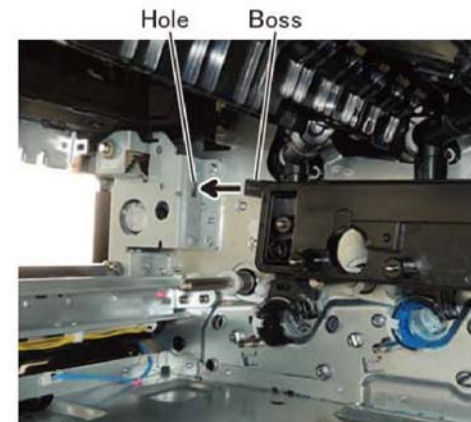

Figure 5 Conductor housing assembly install
3. When installing the conductor housing assembly, insert the boss at the rear of the conductor housing assembly into the installation hole, Figure 5.